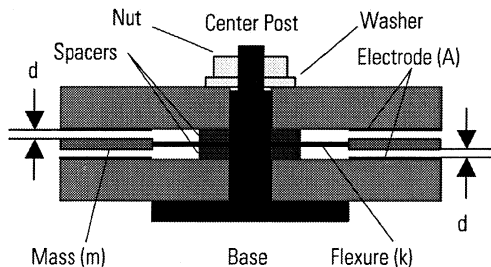
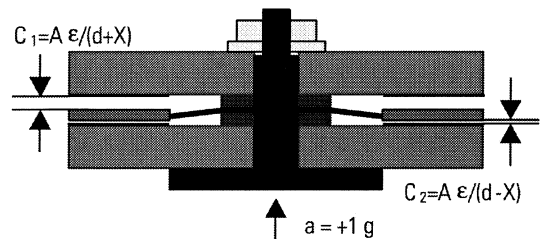
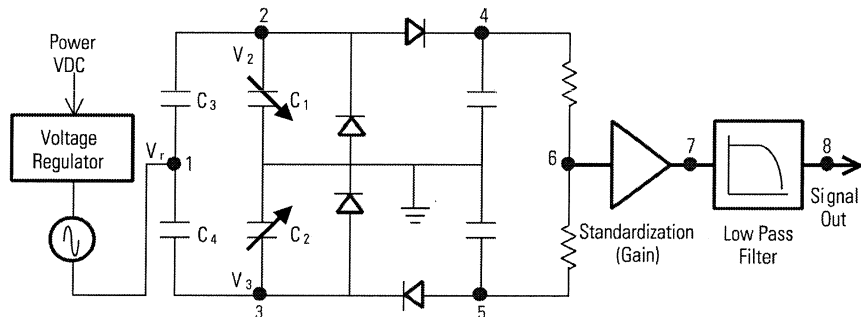
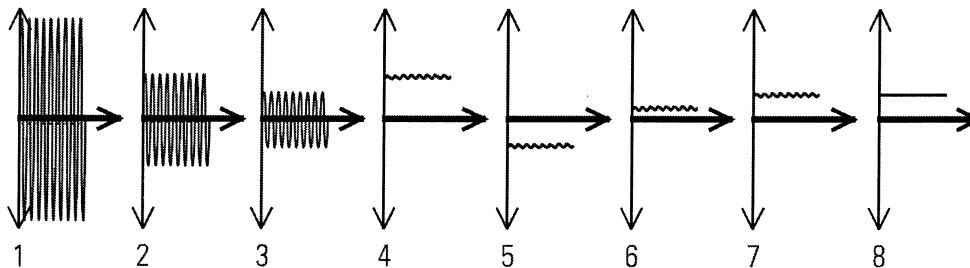

Figure 1a: Sensing Element in “0 g” Condition
Figure 1b: Sensing Element in “+1g” Condition
Figure 2a Circuit Schematic
Figure 2b: Response from Circuit from +1g Static Acceleration (x-axis = time and y-axis = voltage)
In Series 3700 Variable Capacitance Accelerometers, the sensing mechanism consists of a “washer-shaped,” seismic mass (m) suspended by a proprietary flexure with stiffness (k). This assembly is sandwiched between two circular plates with an electrode area (A), whose distance (d) is closely controlled with precision chemically etched spacers. The resulting air-gap between each electrode and the sensing flexure forms a “mechanical capacitor”. A cross-sectional drawing of this sensing element under a “0 g” condition is depicted in Figure 1a. Figure 1b depicts a “+1 g” condition as may be experienced by the sensor as it rests in the Earth’s Gravitational Field.
As shown in Figure 1b, when the element is accelerated (a), an inertial force (F) is created on the mass (m) according to Newton’s Second Law of Motion.
The built-in microelectronics contains a capacitive bridge circuit that converts this change in capacitance to a useful voltage signal. A simplified schematic of the circuit is shown in Figure 2a. The theoretical response from the +1g acceleration shown in Figure 1b is depicted by the time traces shown in Figure 2b. The numbers 1 through 8 on Figure 2b correspond to the signals at locations 1 through 8 on Figure 2a. For example, if the signal from location 2 were viewed on an oscilloscope, it would look like the signal shown in graph 2 of Figure 2b.
It would be sufficient to complete the circuit at this point, however, a couple additional features are included to enhance the performance of the sensor. First is the addition of a “standardization” amplifier. This is used to “trim” the range of the sensor to a convenient number such as 3g, 20g, 50g or 200g. For example, the amplifier in Figure 2a is used to gain the signal by a factor of 2. In other words, the voltage at Location 7 is twice as large as it is at Location 6. Second, a low-pass electrical filter is used to reduce unwanted signals from high frequency vibration and eliminate any residual affects of the oscillator frequency.